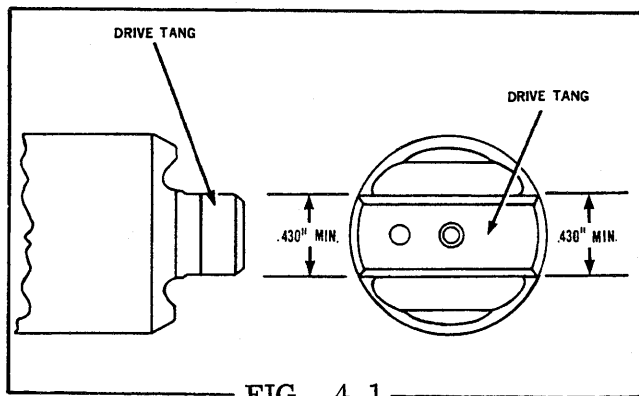

FIG. 4.1
1. Drive Shaft - Measure the distance across the flats of the drive tang which must not be less than .430". The shaft diameter in the drive shaft seal area must be free of nicks and scratches for the seals to function properly. Moderate shaft wear from the seal lips is normal (Fig. 4.1).